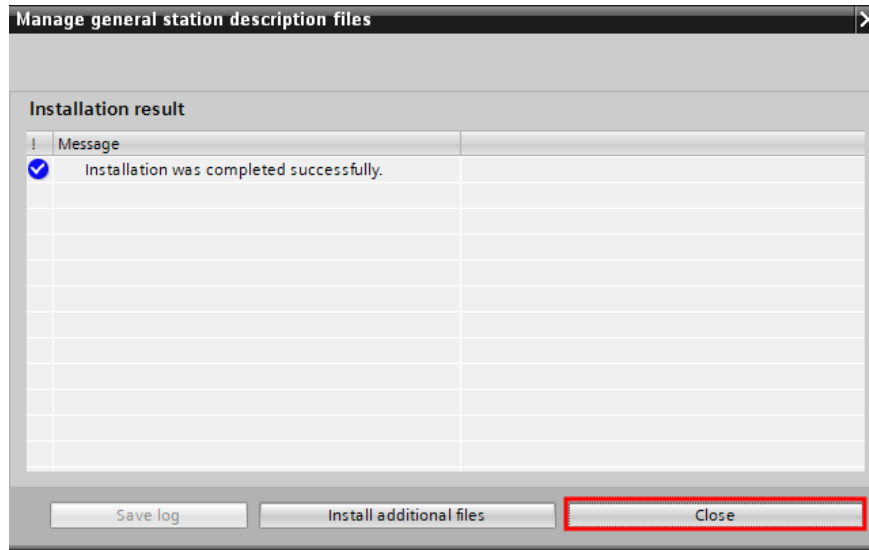

Figure 5: Installation Result Window
8. An installation complete window will appear, click close, Figure 5.